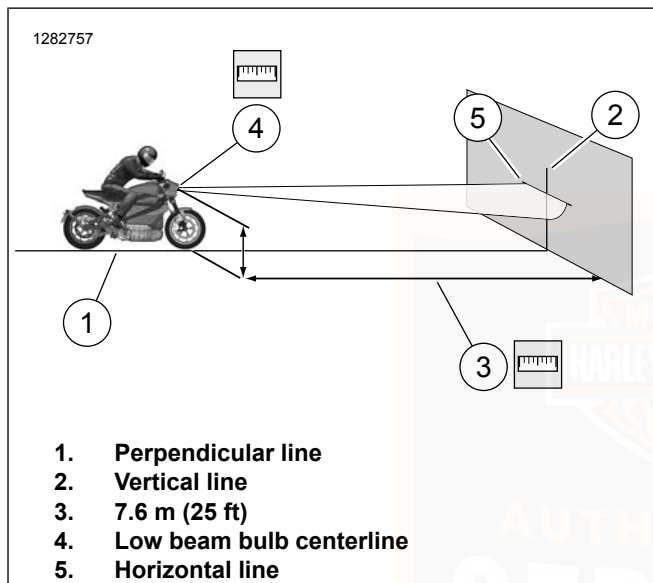

Figure 60. LED Headlamp Alignment
1. See Figure 60. Park the motorcycle in a line (1) perpendicular to the wall.
3. Draw a vertical centerline (2) on the wall aligned with line (1).
4. With the motorcycle loaded, point the front wheel straight forward at wall. Measure the distance (4) from the floor to the center of headlamp.
5. Draw a horizontal line (5) through vertical line (2) using the same height measurement as low beam bulb centerline (4).
6. Align the top of the hot spot to horizontal line (5) with headlamp set to low beam.